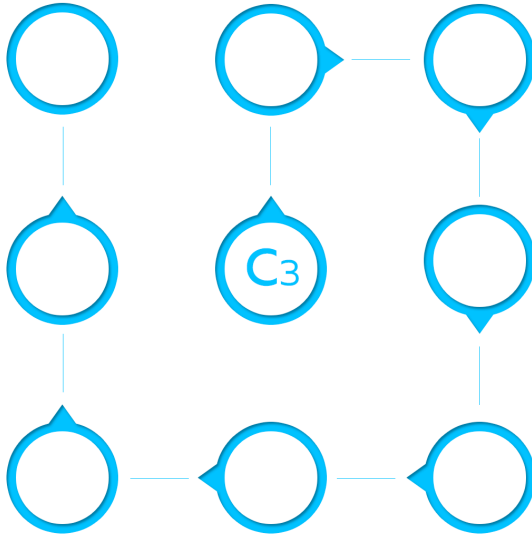

Fig. 36. Grid like pattern.
21. Deliver single pulse and observe muscle contraction (movement elicitation of finger or thumb). Try to move a coil about 2 cm around C3 in a grid like pattern (Fig. 36). Each time you move a coil deliver a stimulus. If no muscle contraction is observed, gradually increase the intensity (5% step). Continue moving a